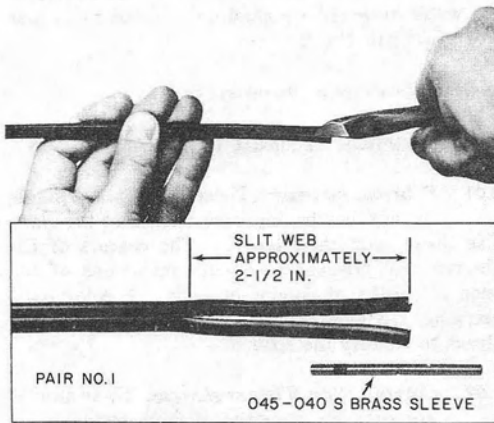

Fig. 1—Slitting Insulating Web
- (1) Slide drop wire pair No. 1 halfway into jaws of diagonal pliers and cut insulation web as shown in Fig. 1.